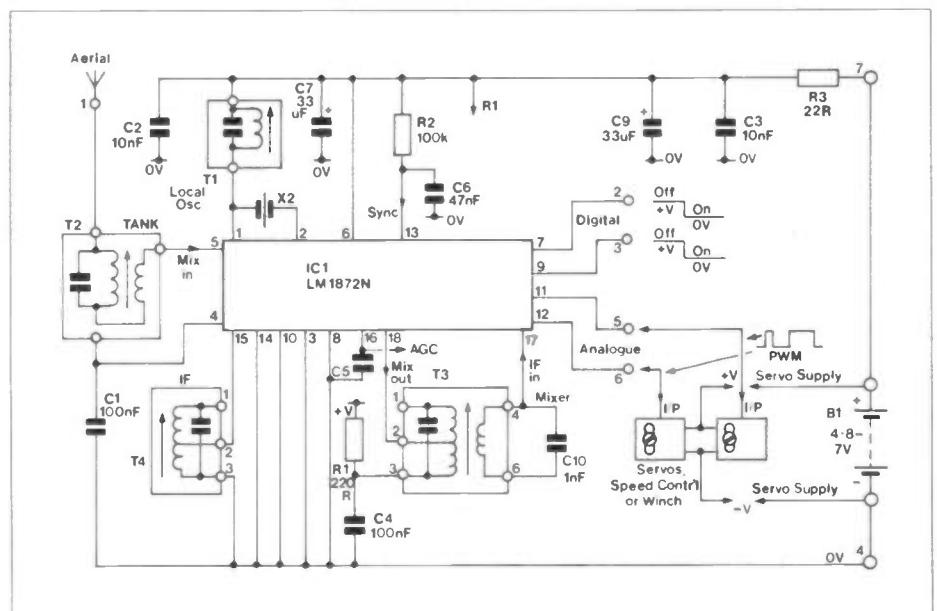

Figure 8. 27MHz Receiver circuit diagram
Figure 8, the circuit diagram, shows the receiver and external connections. Transmitted 27MHz signals are picked up by the aerial and coupled to the mixer via tank coil T2. This coil effectively keeps strong out-of-band signals like TV and FM broadcasts from cross-modulating with the required signal. A local oscillator consisting of T1 and X2 connects via IC1 pins 1 and 2 to the internal mixer section where the local oscillator and aerial signals are mixed at T3 primary (pin 18). The stepped down signal appears on IC1 pin 17 which is the intermediate frequency (IF) input. IF tuning is performed by T4. In the case of using 'blue band' crystals for example, the transmitter frequency will be 27.245MHz and the receiver local oscillator will run at 26.790MHz. When these two signals are present at the mixer, a difference signal is produced, in this case 27.245 – 26.790MHz = 455kHz. This is true for all crystal pairs which is why matching is important. The 455kHz signal or IF (since it is intermediate between the input RF frequency and the desired audio frequency) is recognised by a tuned bandpass filter T4, which only responds to frequencies in the range 455kHz  $\pm$  3.2kHz (3dB). Sum and difference signals above 460kHz and below 450kHz are not amplified and become ineffective. This is basically how superheterodyne receivers, of which this is an example, function.